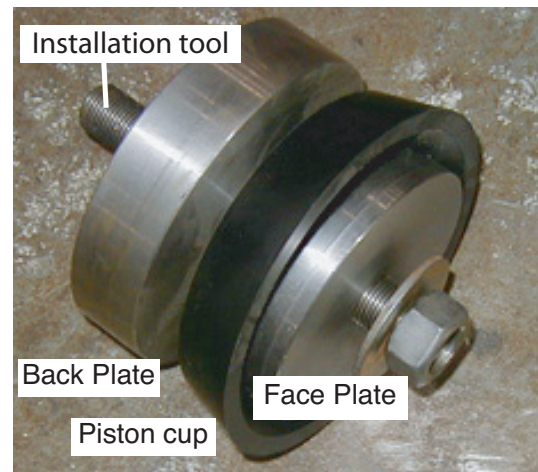

Figure 48
9. Separate the components (Figure 48), and clean all residue from the face plate and O-ring back plate, as well as the O-ring groove.
4. Grease the new piston cup, and slide it over the alignment pin with the flat side to the back plate, as shown in Figure 48.